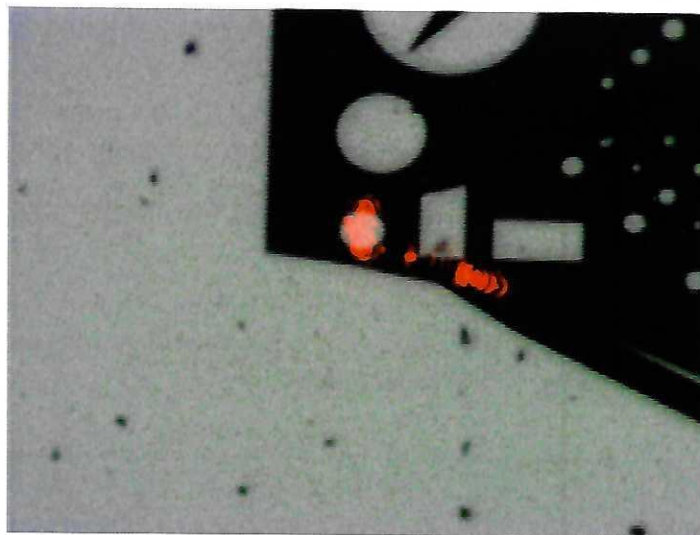

Fig. 5.8: Check optical alignment on the quartz sample.
5. On the quartz sample, move the laser spot to the center of the round 100 μm pad as indicated in the picture Fig. 5.8 on the right hand side of the quartz sample.